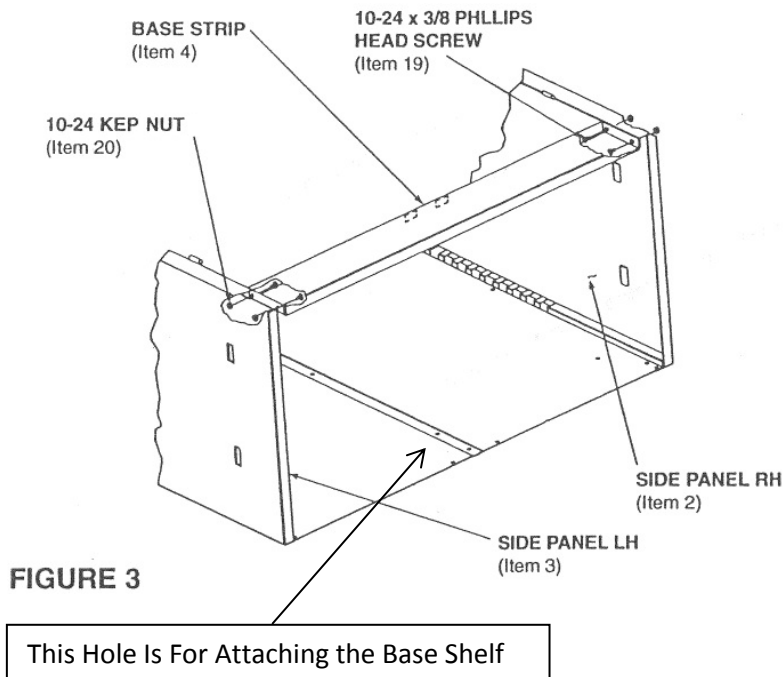

FIGURE 3
Place the base strip (Item 4) between the side panels so that the two slots in the top flange of the base strip face toward the top of the cabinet. Align the slots in the side flanges of the base strip with the holes in the side panels. Secure together with four (4) 10-24 X 3/8 Phillips head screws (Items 19) and four (4) 10-24 Kep nuts (Item 20) each side. See Figure 3.